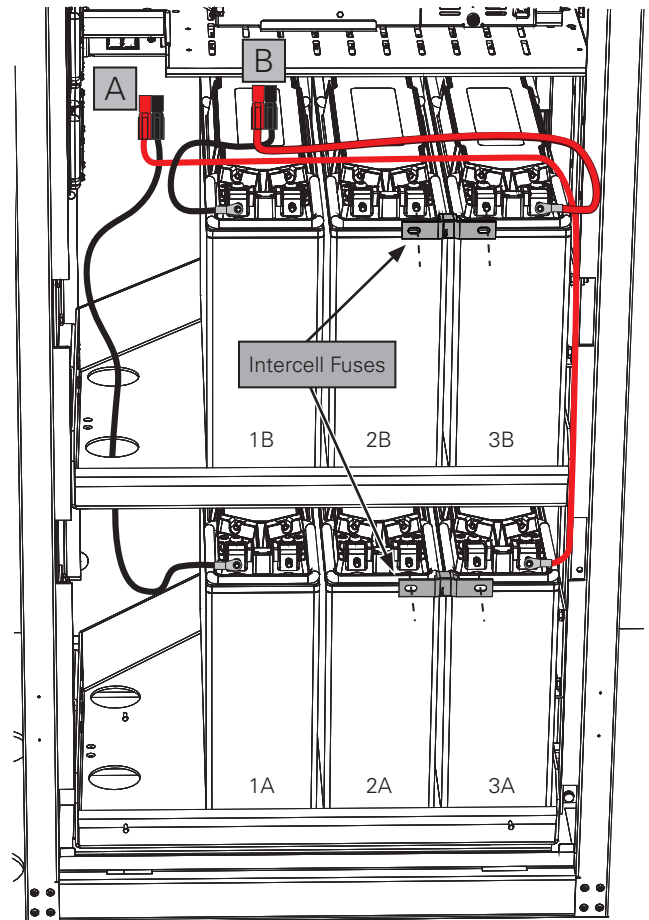

Fig. 3-26, Installing Battery Cables and Intercell Fuses
- A. Start with A string battery cables on the bottom tray of the PN-4 FT enclosure. Route the black wire through the hole in left side of the top tray as seen in Fig. 3-26. Route the red wire along the right side of the enclosure.